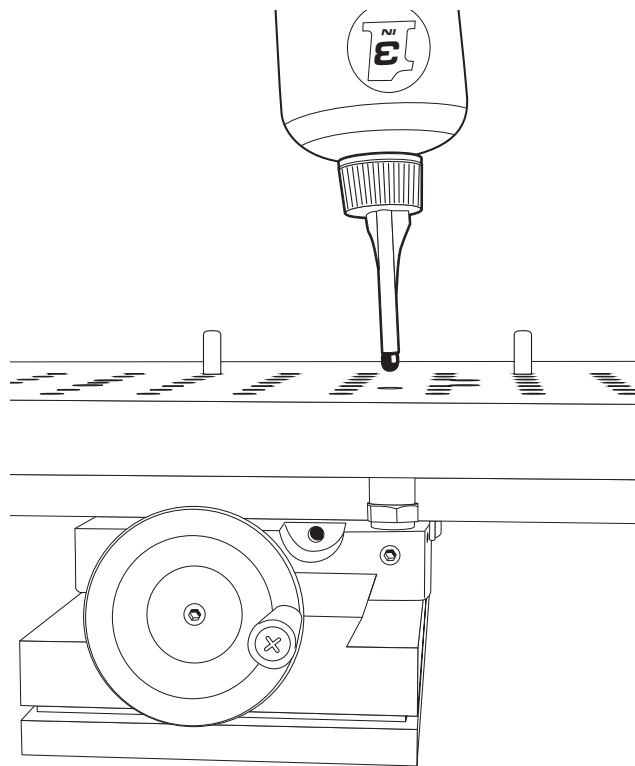

Figure 4—Adding oil through the Oiler-access hole.
3. Add a light oil such as 3 in 1 oil. Fill the cup a few times to start and then fill it once a week from then on (See Figure 4).